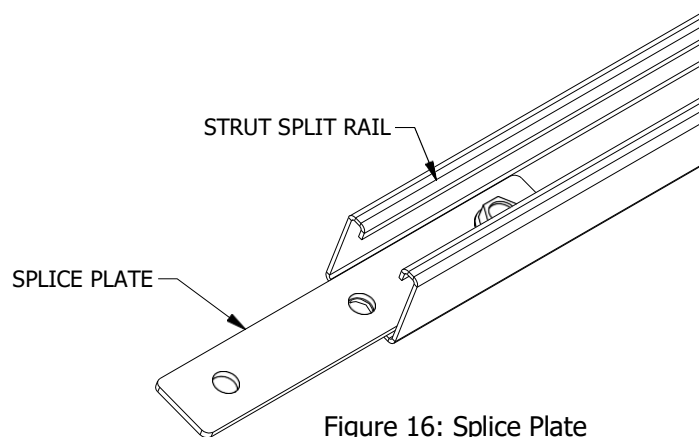

Figure 16: Splice Plate
1. Insert a Splice Plate halfway into one end of the Strut Rail, center the Chassis hole and bolt it with a single 3/8"-16 x 1" serrated bolt and Figure 16 below.